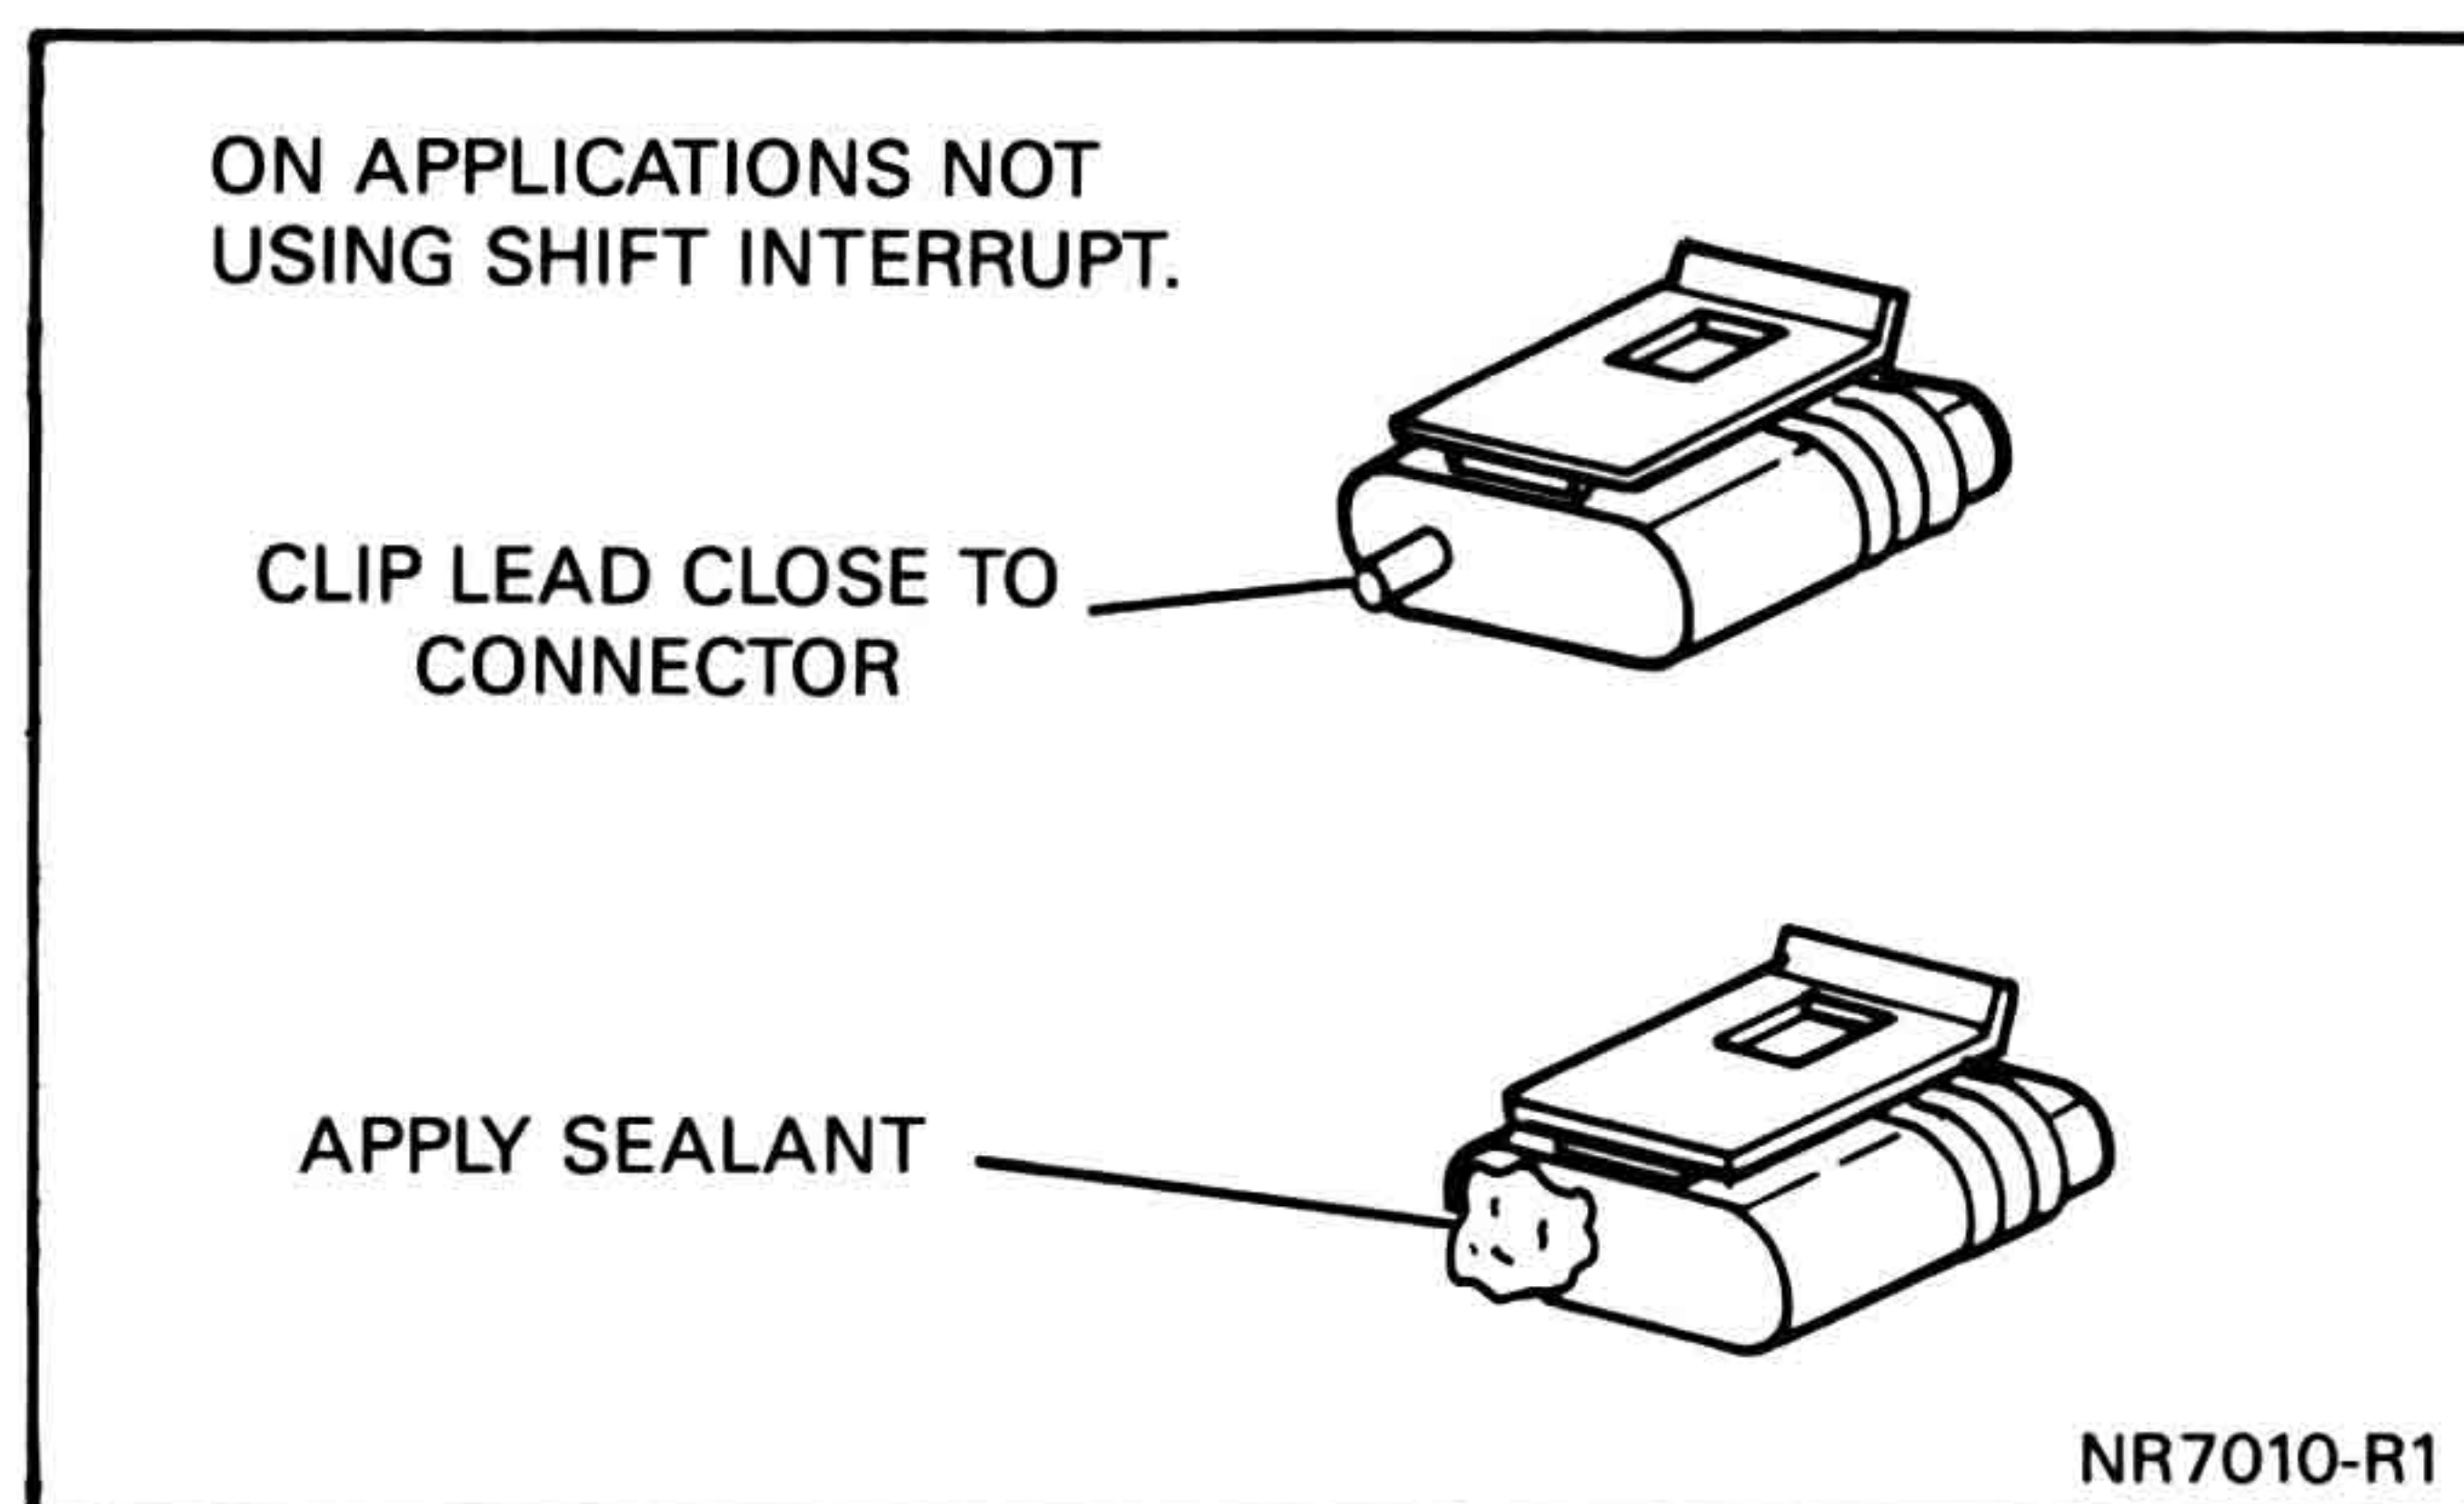

Figure 10 — Sealing Shift Interrupt Connector
30. If shift interrupt is not used, clip lead wire close to shift interrupt connector body and place a dab of adhesive sealant (such as RTV) over the cut end of the wire to seal it from moisture (see figure 10). Install shift interrupt connector to distributor. Connector must be installed to seal the terminals regardless of whether application uses shift interrupt. Be sure shift interrupt lead is not routed against any secondary leads and that connector is fully seated and latched.